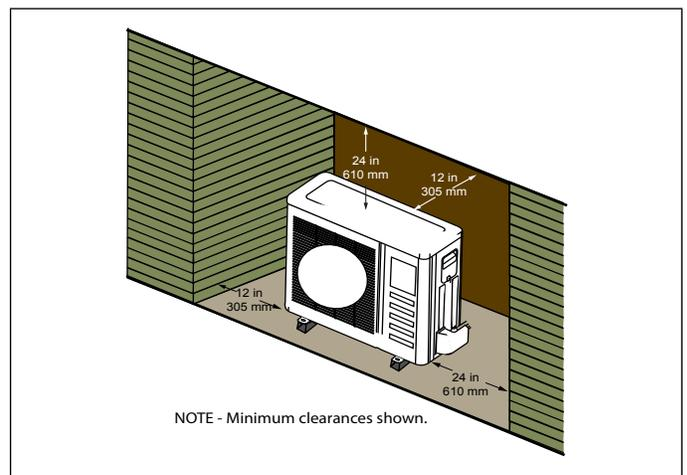

Figure 21. Unit installed in Alcove
- Outdoor unit can be installed in a alcove or under a roof overhang as illustrated in “Figure 21. Unit installed in Alcove”